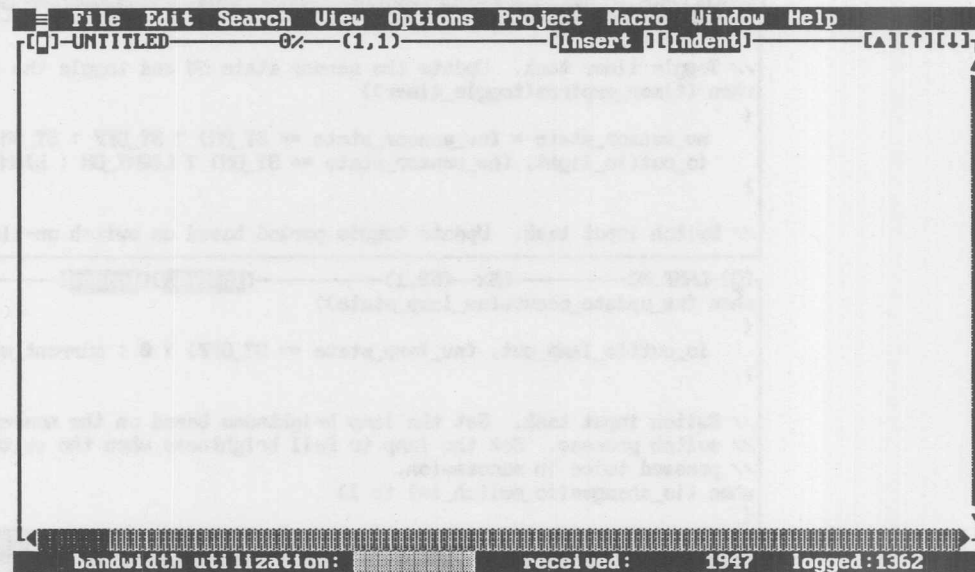

Figure 5-1. Editor Window for a New Untitled File
The LONBUILDER Editor creates the files named in the command line and opens the Editor window (see figure 5-1, later) with a text window for each file.
- 4 Select the Create command button to open the Editor window (see figure 5-1, later) for an UNTITLED file, which you can name later on.
The LONBUILDER Editor opens the existing files and creates any new files named in the command line. The Editor window (see figure 5-1, later) opens with a text window for each file.
- 5 Select the Modify command button to open the Editor window (see figure 5-1, later) with a text window for the selected file.
The editor has a built-in macro system that makes repetitive editing tasks easy to accomplish. You can even invoke macros from within search operations. Figure 5-1 shows the Editor window for a new untitled file. Figure 5-2 shows the Editor window with two text windows and the top text window active. Figure 5-3 shows the Editor window with two text windows and the bottom text window active.